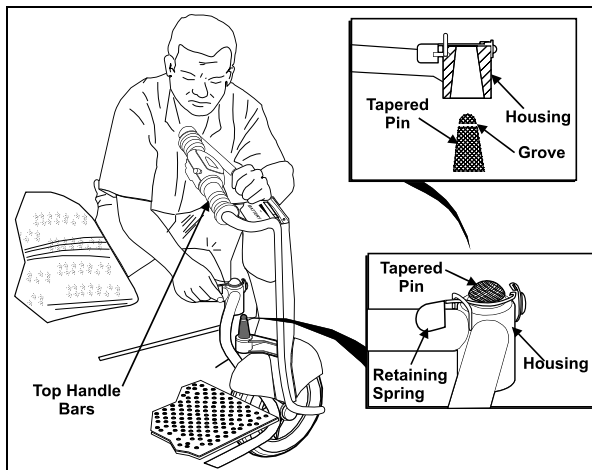

Figure 5
- a. Place **Tiller** in front of the **Frame**. (See **Fig. 5**).
Kneel at the left side of the **SUPERLIGHT** holding the left side of the **Top Handle Bars** of the **Tiller** with your left hand. The **Tiller** should be vertical and slightly inclined backward as shown in **Figure 5**.